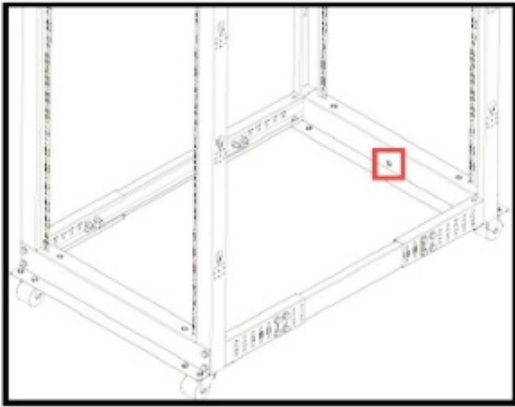

Figure 10
1. Insert an M6 Screw through the Grounding Point on the Grounding Wire and into the Ground Hole located on the bottom of the Rack. (Figure 10)